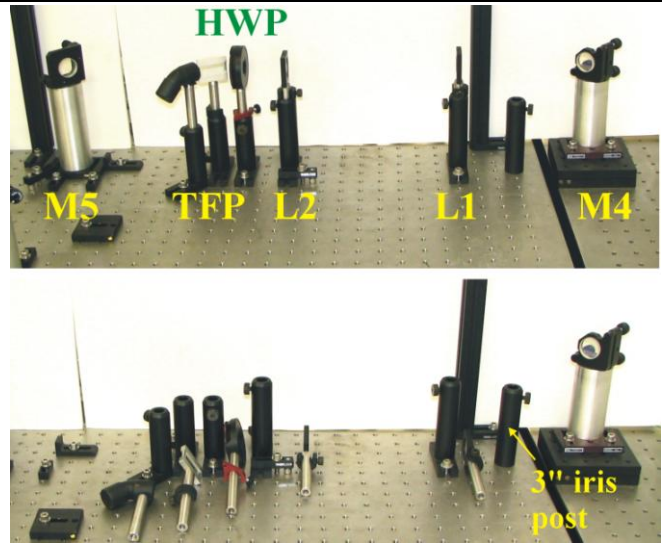

FIGURE 3:
2. Place 15.5 mm alignment iris, marked with yellow label, into the 3" post holder (shown in FIGURE 3) in front of L1 post holder.